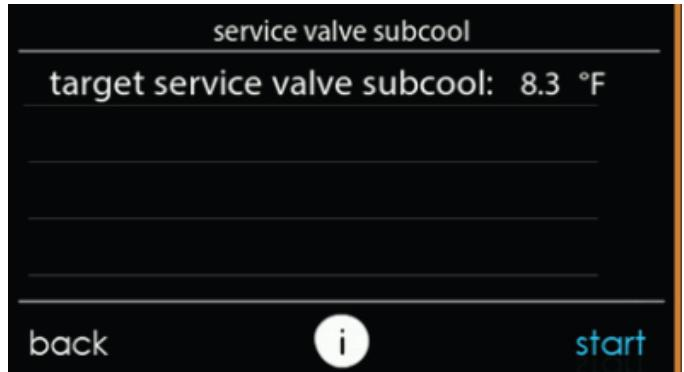

Fig. 16 – Liquid Service Valve Subcooling Target
6. The next screen will show the target subcooling that should be attained while charging (see Fig. 16). Before selecting "Start" verify that the service valves are open.